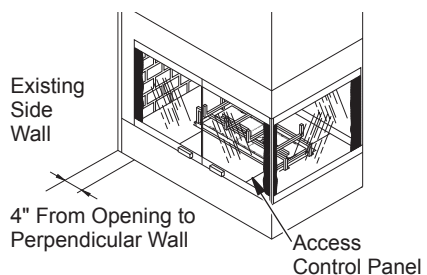

Figure 2 - Typical Two-Sided Fireplace Installation
- A location that avoids the cutting of joists or roof rafters will make installation easier. Figure 2 shows a typical three-sided fireplace installation.